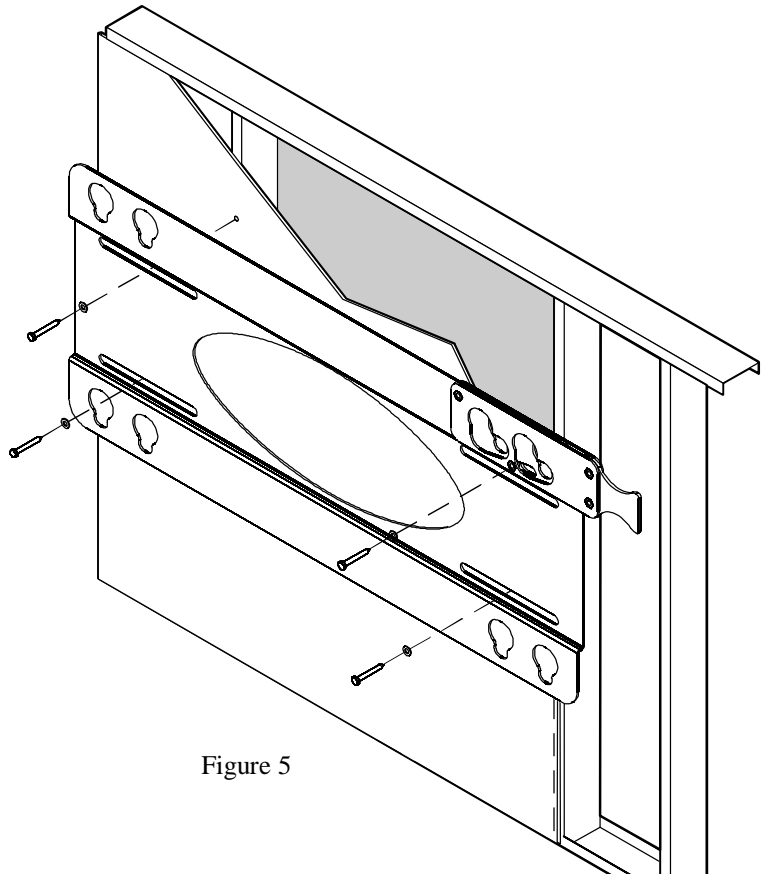

Figure 5
3. Securely anchor the static mount to wall studs or supporting framework using the lag screws and flat washers. (See Figure 5)